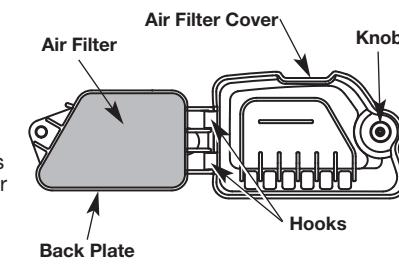

Fig. 16
1. Open the air filter cover. Unscrew the knob on the left side of the cover. Swing the cover out (Fig. 16).
2. Remove the air filter (Fig. 16).
6. Replace the filter (Fig. 16).
7. Make sure the back plate is correctly positioned (Fig. 16).
8. Swing the air filter cover closed and tighten the knob (Fig. 16).